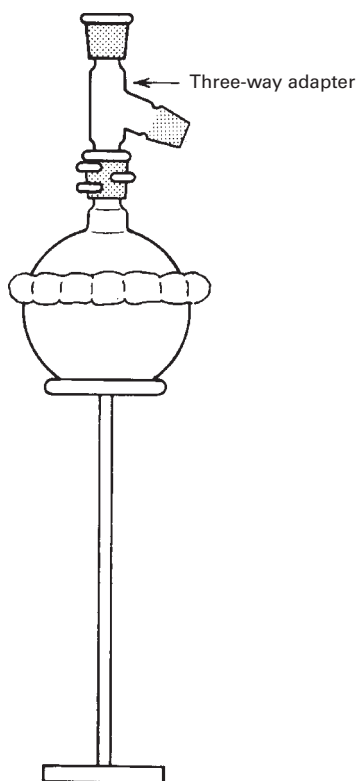

FIGURE 18.5 Clamps and flask and three-way adapter.
4. Add the **three-way adapter** now (Fig. 18.5). Thermometer and thermometer adapter come later.